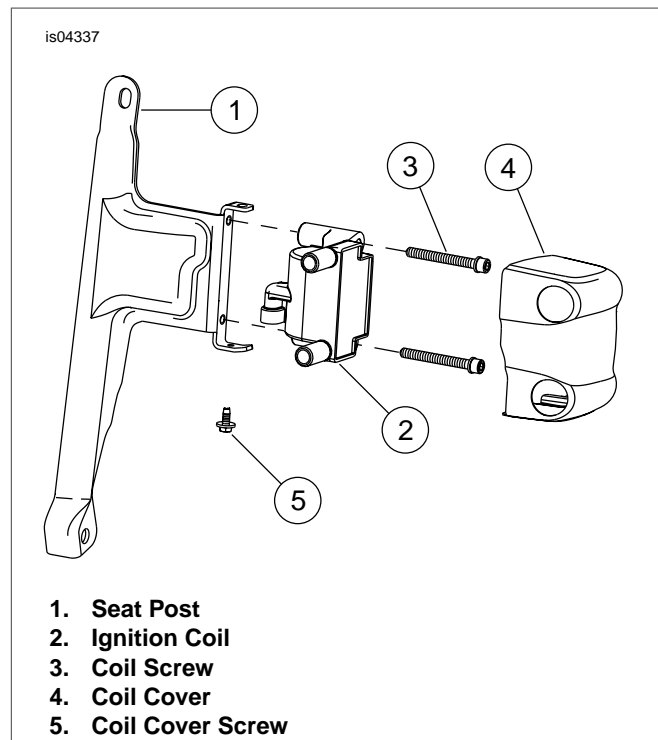

Figure 4. Install Ignition Coil to Seat Post
7. See Figure 4. Remove coil cover screw (5) and cover (4) from stock seat post (1).
8. Remove ignition coil screws (3) and coil (2) from seat post.
1. See Figure 4. Install ignition coil (2) to new seat post using screws (3). Tighten ignition coil screws to 10-15 ft-lbs (13.6-20.3 Nm).
2. Install coil cover (4) to seat post with screw (5) and tighten to 30-40 **in-lbs** (3.4-4.5 Nm).